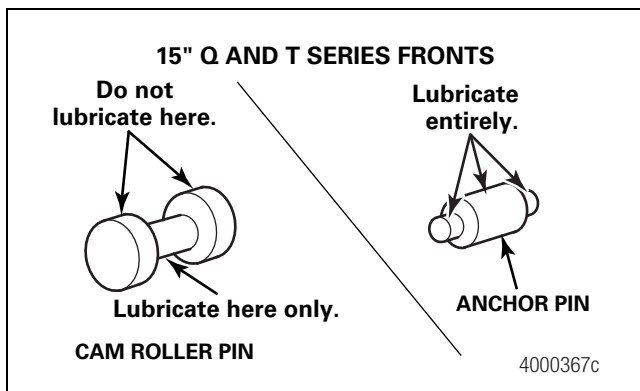

Figure 5.28
1. Lubricate the shoe rollers and anchor pins as shown in Figure 5.28. Use only Meritor-approved grease. Refer to Section 7 for approved grease specifications.
- Lubricate the shoe rollers and anchor pins as shown in Figure 5.28. Use only Meritor-approved grease. Refer to Section 7 for approved grease specifications.